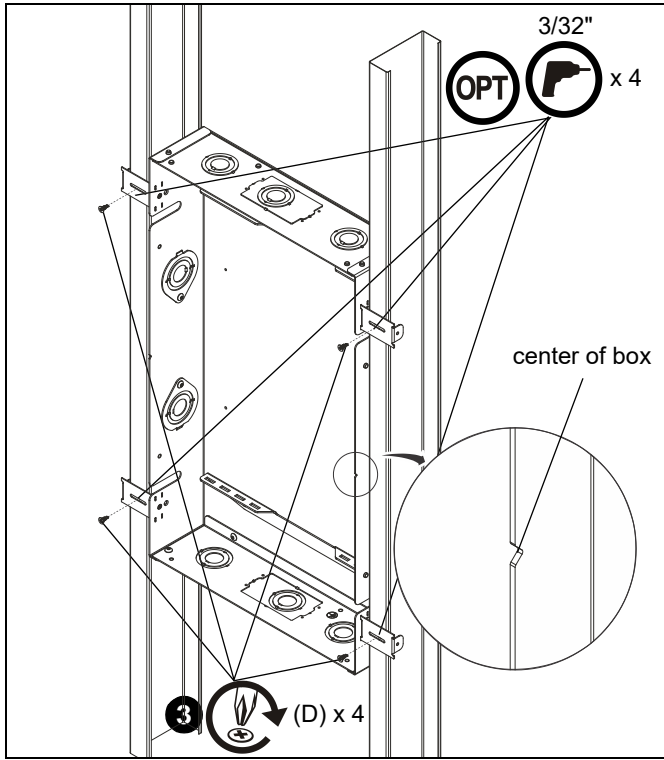

Figure 4
- Use four #6 x 3/8" Phillips tapping screws (D) to secure four stud tabs (B) to studs at desired mounting height for first in-wall box (A). (See Figure 4)
NOTE: Four 3/32" pilot holes may be drilled into studs prior to installation of screws if desired. (See Figure 4)